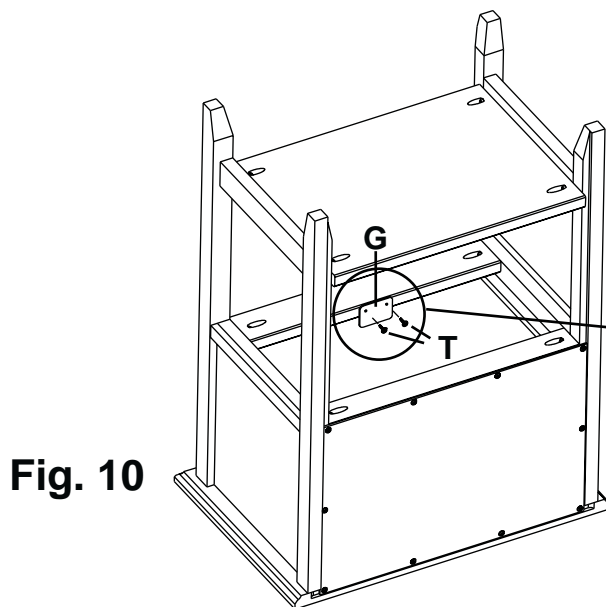

Fig. 10
10. Center and align the Drawer Stop (G) to the bottom edge of the Front Stretcher and attach with two #6 x 5/8" Philtruss Screws (T). See Figures 10 and 10a. Turn your unit upright.